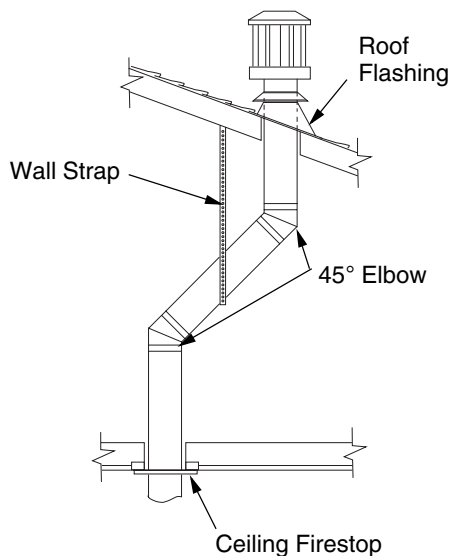
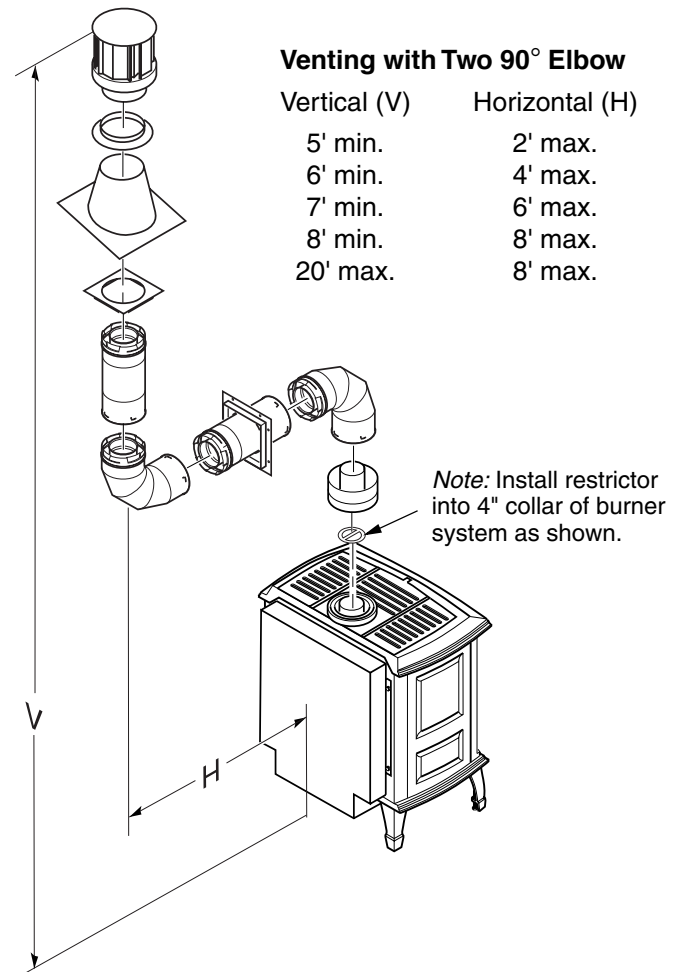

Figure 31 - Offset with Wall Strap and 45° Elbows
Figure 35 - Vertical Venting Configuration Using Two 90° Elbow
1. Determine the route your vertical venting will take. If ceiling joists, roof rafters, or other framing will obstruct the venting system, consider an offset (see Figure 31) to avoid cutting load bearing members. *Note:* Pay special attention to these installation instructions for required clearances (air space) to combustibles when passing through ceilings, walls, roofs, enclosures, attic rafters, etc. Do not pack air spaces with insulation. Also note maximum vertical rise of the venting system and any maximum horizontal offset limitations. Offsets must fall within the parameters shown in Figures 35 through 37, pages 17 and 18.
Note: If an offset is needed to avoid obstructions, you must support the vent pipe every 3 feet. Use wall straps for this purpose (see Figure 31). Whenever possible, use 45° elbows instead of 90° elbows. The 45° elbow offers less restriction to the flow of the flue gases and intake air.
5. Place the flashing over the pipe section(s) extending through the roof. Secure the base of the flashing to the roof and framing with roofing nails. Be sure roofing material overlaps the top edge of the flashing as shown in Figure 31. There must be a 1" clearance from the vent pipe to combustible materials.
Figure 35 through 38 show four different configurations for vertical termination. All connections must be sealed with high temperature silicone sealant as specified in the second warning statement on page 12.